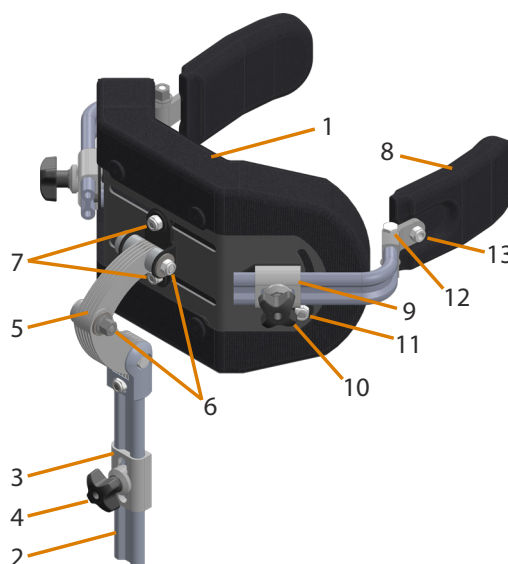

Figure 32. Headrest components
Components, see Figure 32:
The mounting profile is placed through the bracket (3 in Figure 32) and then secured in place by tightening the knob (4 in Figure 32). The cushion can be adjusted forward and back by loosening the link plate nuts (6 in Figure 32), then tightening the nuts again after adjusting.
- Loosen the bolts (7 in Figure 32)
The depth of the side support is set using a knob (10 in Figure 32). The angle of the side support can be adjusted up and down by loosening the nut (11 in Figure 32) in the side support bracket. Adjusting the angle of the side support cushion inwards or outwards is done by loosening the screw (12 in Figure 32), and it can be angled up and down by loosening the nut (13 in Figure 32).